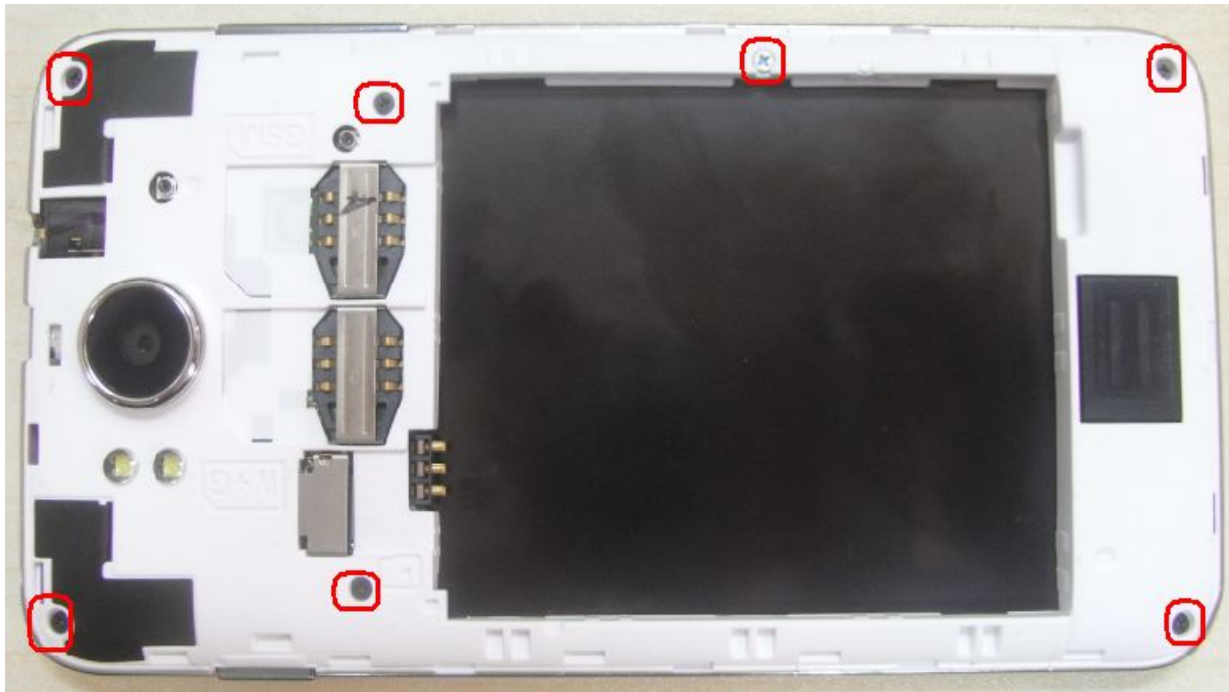

Fig. 2
1) Unscrew 7 screws in back cover , as the Fig.2;